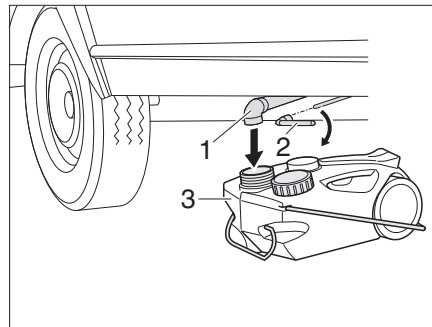

Fig. 138 Waste water tank, underfloor
- Place the mobile waste water tank (Fig. 138,3) under the waste water piping (Fig. 138,1).
- Place the socket spanner (Fig. 138,2) on the square bolt.